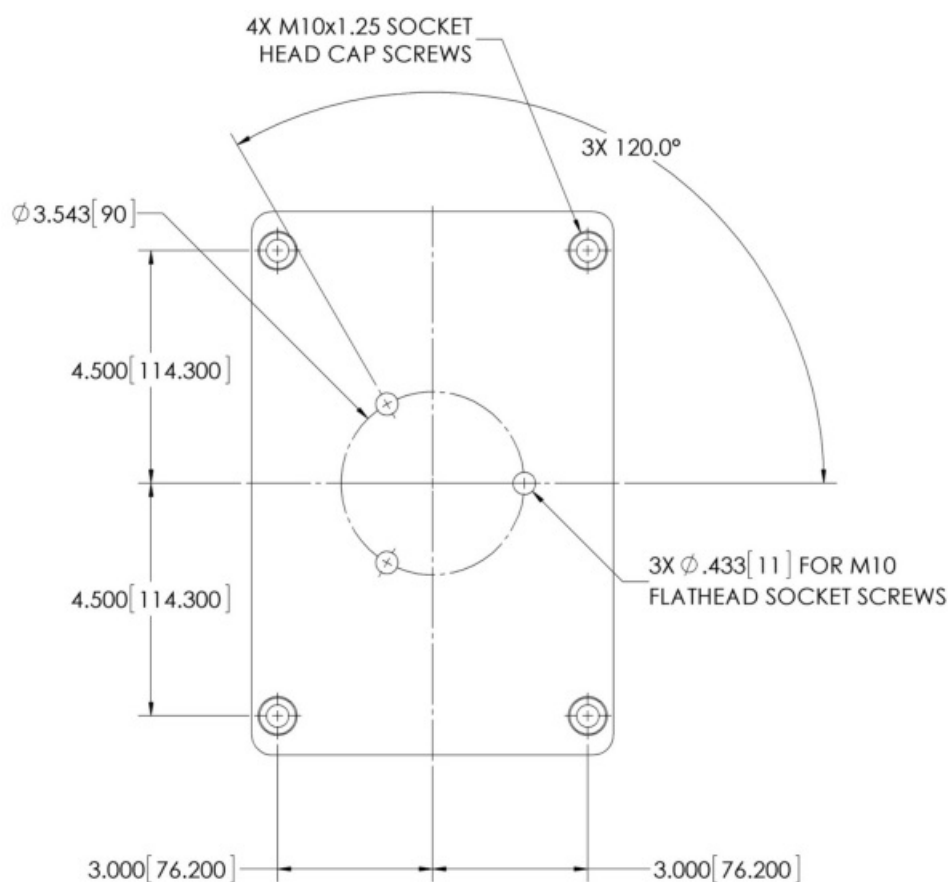

Figure 2. AFD90-2 Mounting Bracket
The AFD90-2 is supplied with a standard Mounting Bracket shown in Figure 2. A minimum of (3) three holes should be utilized to secure the Mounting Bracket to the robot mounting flange.
If additional holes are required, it must first be removed from the device before drilling. Four (4) M10x1.5 Socket Head Cap Screws are used to attach the Mounting Bracket to the AFD 92 force device. Once the Mounting Bracket is removed, mounting holes may be placed anywhere within the crosshatched area shown in Figure 2. Push Corp, Inc. can supply engineering support to determine the mounting hole locations at no cost.